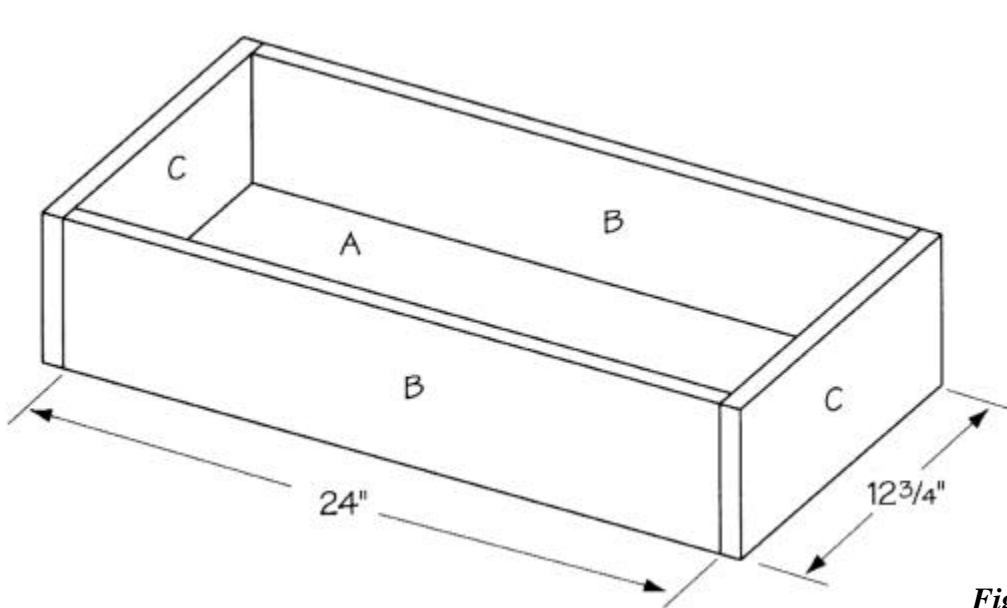

Figure 1
1. Cut one top (A) from 1 x 2 pine measuring 24 inches long.
2. Cut two front/back (B) from 1 x 6 pine, each measuring 24 inches long.
3. Cut two sides (C) from 1 x 6 pine, each measuring 12-3/4 inches long.
4. Place the top (A) on a level surface. Place the two front/back (B) on edge on either side of the top (A), matching the 24-inch-long sides, as shown in *Figure 1*. Apply glue on the meeting surfaces, and screw through the front/back (B) into the edges of the top (A) using six evenly spaced 1-1/2-inch screws on each joint.